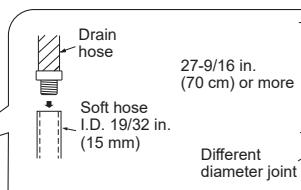

Fig. 3
- If the drain hose provided with the indoor unit is too short, connect it with a field-supplied drain hose (I). (Fig. 3)
- 2) Remove all burrs from the cut section of the pipe, ensuring that precautions are taken to avoid getting metal shavings into the piping. (Fig. 3)